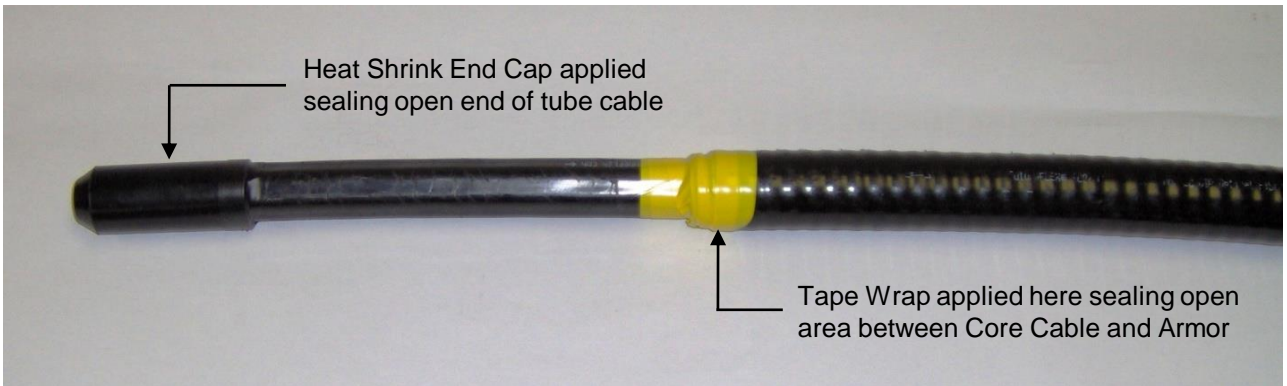

Figure 13
7.7 Apply a tape wrap around the end of the armor and over the core cable to keep water, mud, etc. from getting under the armor during the pull-in operation. **See Fig. 13.**